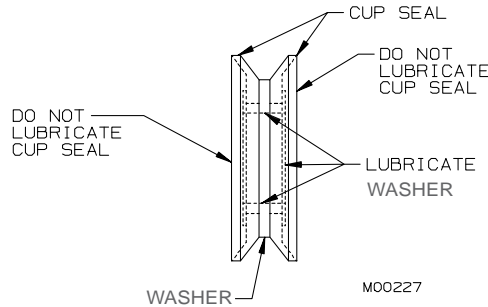

Figure 7-1 Shaft Seal Lubrication
2. Assemble the shaft seal by installing the cup seals (3) on the plastic washer (4). Apply a moderate amount of approved sanitary lubricant (such as Compound 7) to the washer. Do not allow any lubricant to come in contact with the bell-shaped rubber portions of the seal (figure 7-1).